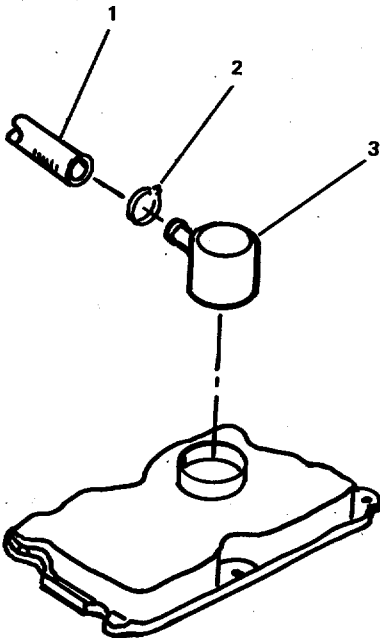

FIGURE 3-31. Crankcase Breather and Tube.
- t. Insert the crankcase breather (3, FIGURE 3-31) in the cover (4).
- u. Install the nonmetallic hose (1) on the breather (3) with clamp (2). Tighten clamp (2).